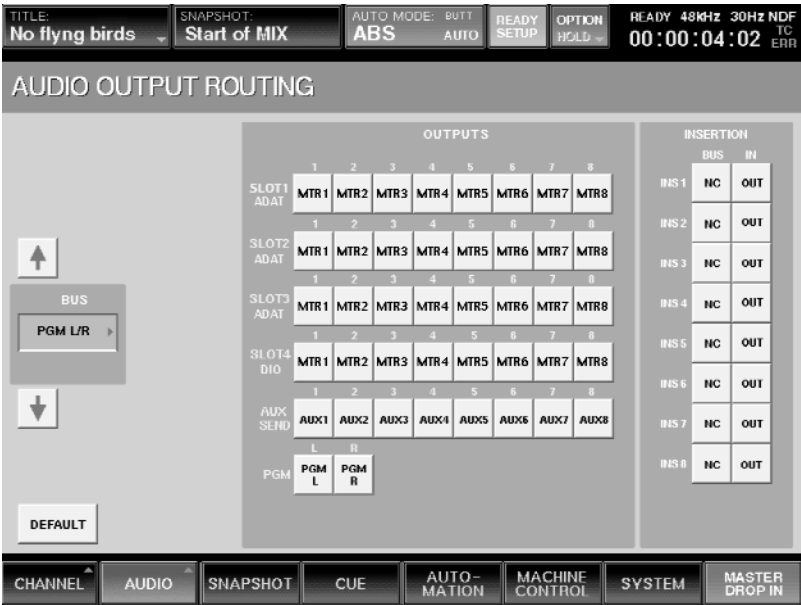

Figure 19
- 1 Press the AUDIO tab at the bottom of the touchscreen, then select OUTPUT ROUTING. The Output Routing Window appears. (See Figure 19)